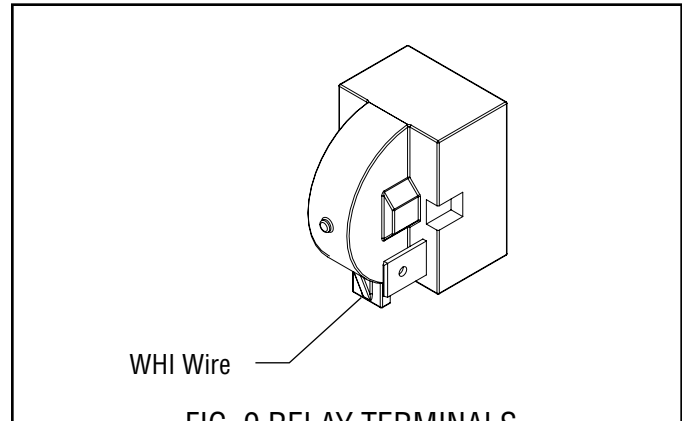

FIG. 9 RELAY TERMINALS
1. Remove the terminal cover (1)
3. Pull relay (2) off of the compressor pins and discard.
5. Refer to Fig. 9 and reconnect the wires.
6. Reinstall terminal cover (1).